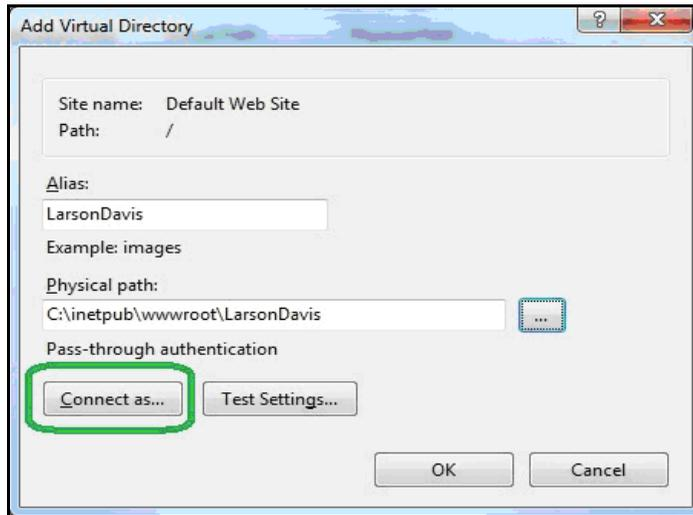

FIGURE 2-7 Add Virtual Directory - Connect As
Step 9 In the **Add Virtual Directory** dialog box, type **LarsonDavis** in the Alias field, as shown in FIGURE 2-7.
Step 10 For **Physical path**, specify **LarsonDavis** as the default root directory by typing the path as shown in FIGURE 2-7.
Step 11 Click the **Connect as...**, as shown in FIGURE 2-7.